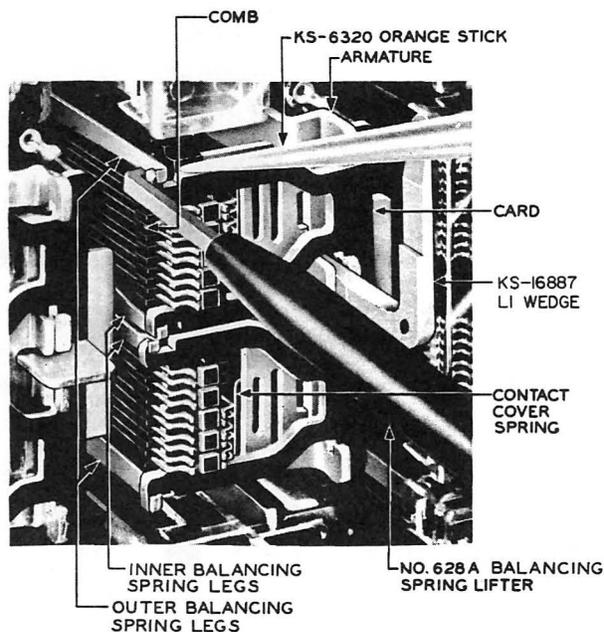

Fig. 3 - Disengaging Outer Balancing Spring Leg From Upper Card
3.11 *Balancing Spring Legs Engaging Upper Card:* Block the associated armature in the operated position with the KS-16887 L1 wedge. To disengage the outer leg of the balancing spring, hold the No. 628A balancing spring lifter in the left hand and insert the lifter next to the leg so that the end of the lifter is just behind the comb. Roll the end of the lifter under the leg of the spring so that the leg rests in the groove of the lifter. Then draw the lifter forward to the position shown in Fig. 3. With the other hand, place the end of a KS-6320 orange stick on the top edge of the card as shown in the figure. Lift the spring upward with the lifter and, at the same time, press the card downward with the orange stick. When the leg of the spring clears the top of the card, move it toward the left so that it is free of the card. Withdraw the spring lifter. To disengage the inner balancing spring leg from the card, hold the orange stick in the